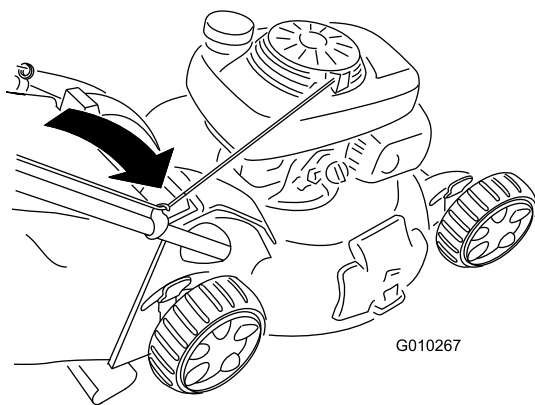

Figure 26
2. Route the starter rope around the lower rope guide (Figure 26).